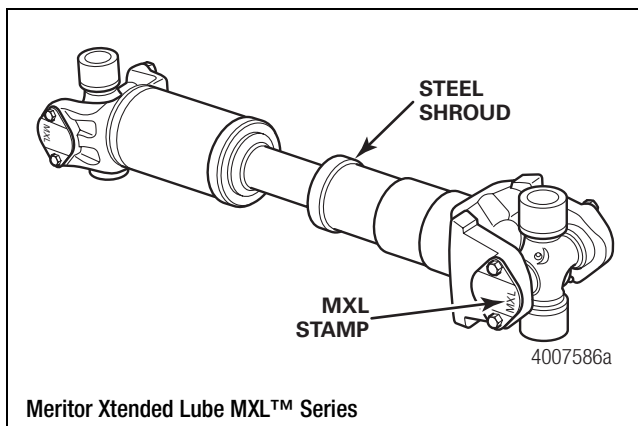

Figure 2.1
- The slip yoke seal includes a protective steel shroud to improve sealing and retain seals securely in place. Figure 2.1.
- The universal joint cover plates are stamped “MXL.” Figure 2.1.